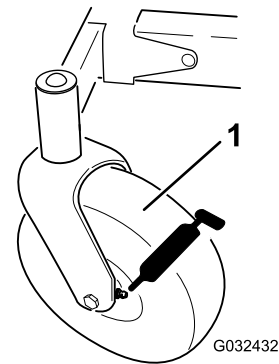

Figure 33
3. Clean the grease fittings (Figure 33) with a rag.
4. Connect a grease gun to each fitting (Figure 33).